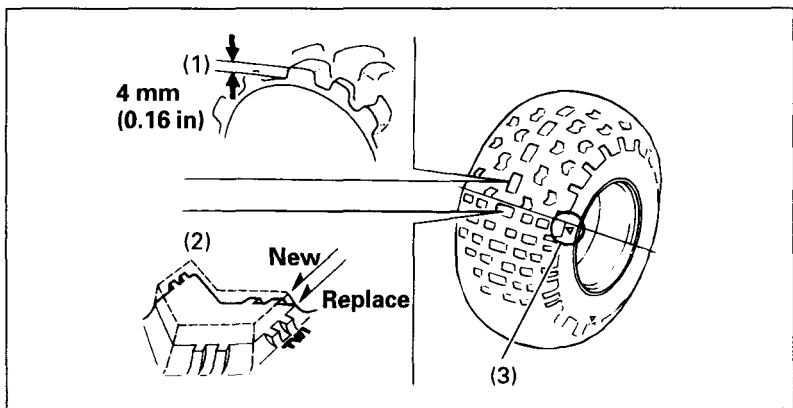

Fig. 4-31
To check the condition of a tire tread, measure the groove depth (1) in the center of the tire, or check the wear indicator (2) as shown in Fig. 4-31.